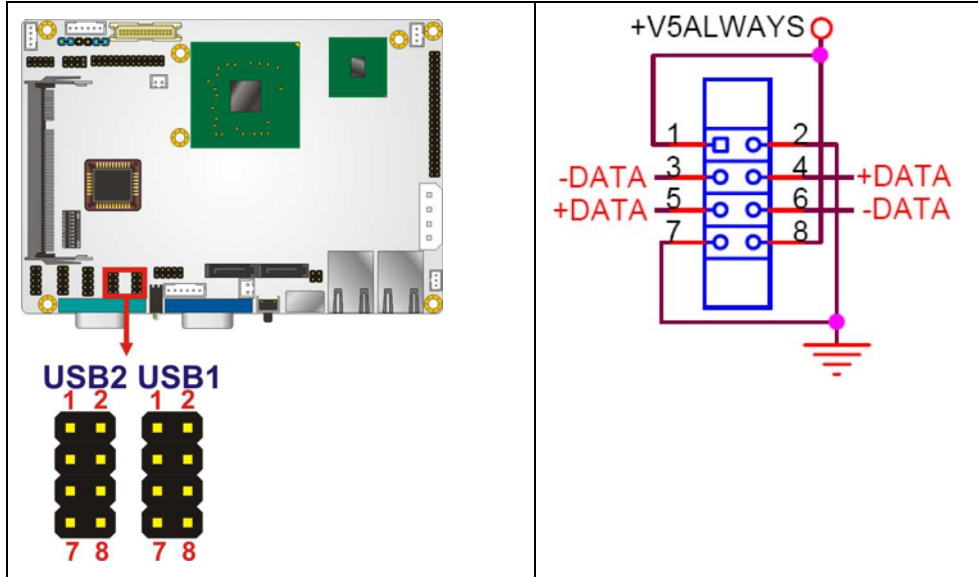

Figure 4-20: USB Connector Pinout Locations
- CN Location:** See Figure 4-20